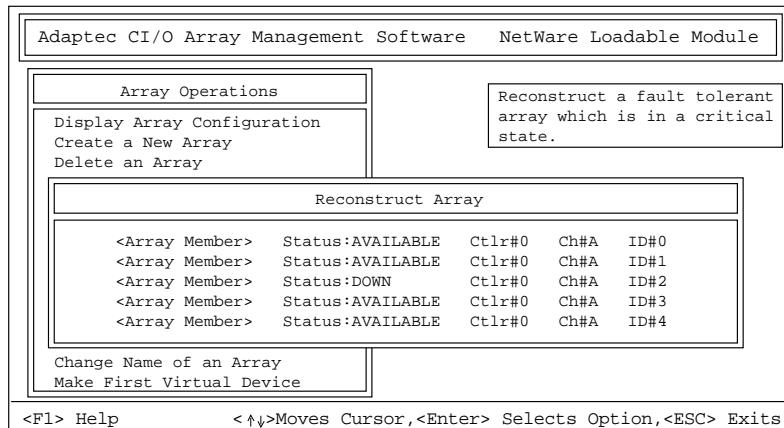

Figure 5-1. Reconstruct Array Window
- 8 Highlight the Critical array and press **Enter**. A list of array members appears, similar to the one shown in Figure 5-1.